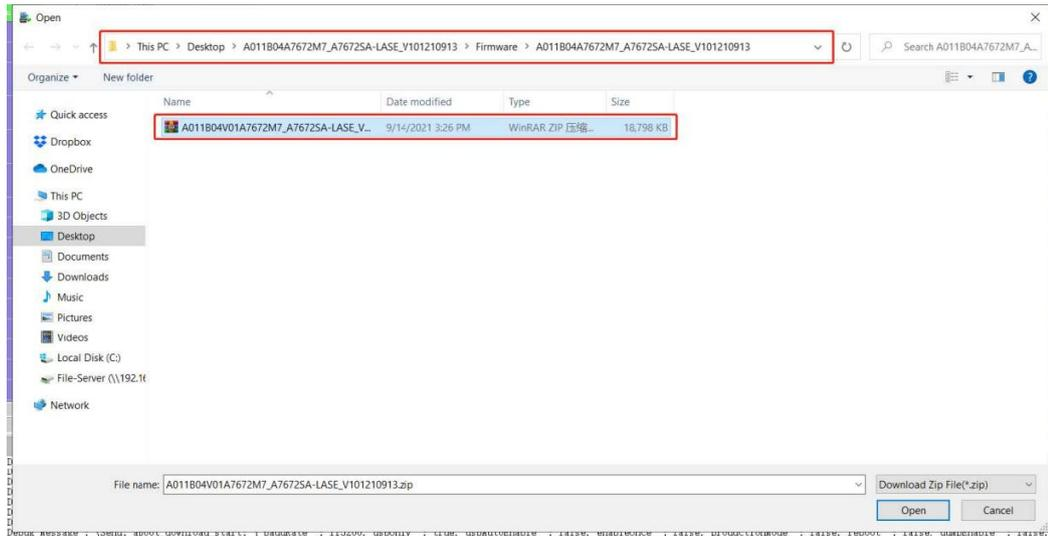

fig.2: .zip file directory
- The **.zip** file is in the unzipped format, contained in the **.rar** folder. You need to unzip the original **.rar** file first. Shown as figure 2.